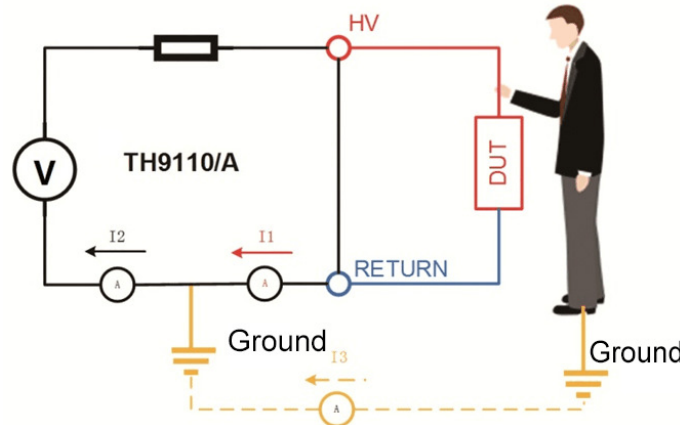

Figure 4-5
- When the electric shock protection is set to ON, when the operator is in contact with the high voltage output terminals, as shown in Figure 4-5, the current meter measures different current values respectively, then the current flowing through the body $i_3 = i_2 - i_1$, when i_3 exceeds the limit, immediately cut off the high voltage output to protect the safety of the operator.